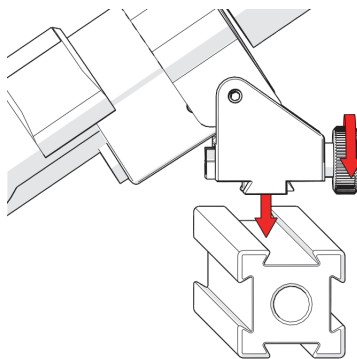

Figure 2-122 Mount on frame bar
2. Mount the laser guide on the frame bar, and then tighten the laser guide knob (see Figure 2-122 on page 142).